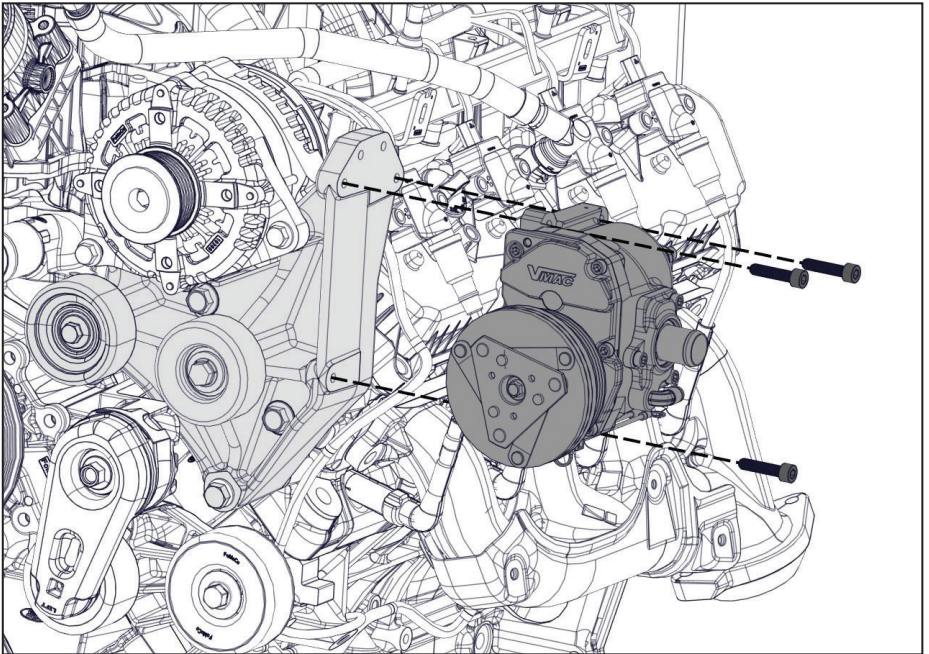

Figure 18 — Mount compressor
- Using the supplied fasteners, mount the compressor onto the main bracket (Figure 18).
- Apply the 1/2 in heat wrap to the cable, using it to secure the lower portion of the 3/4 in heat wrap (Figure 18).